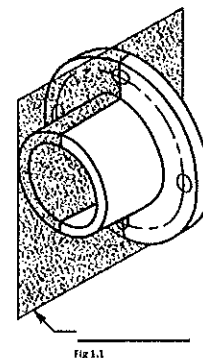

Fig 1.1
1. What does this plane called as shown in fig 1.1?